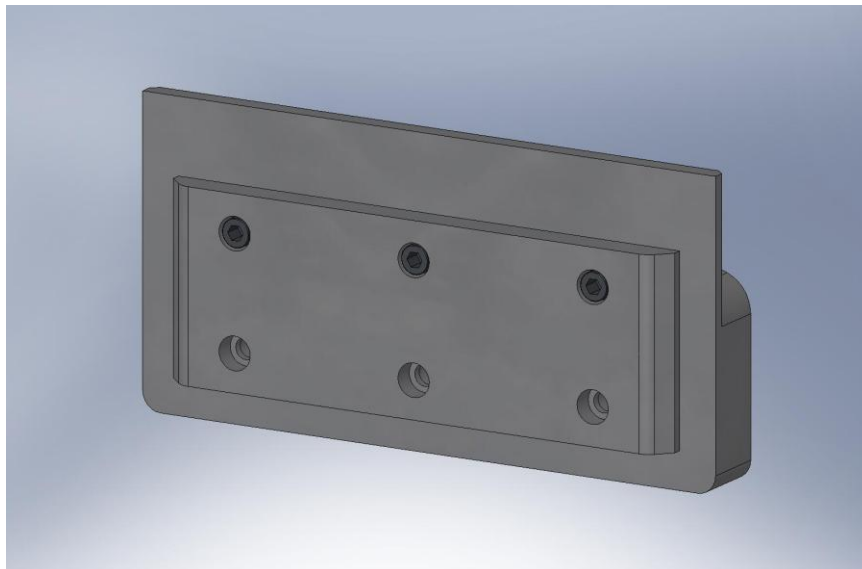

Figure 3.68. Attach Standoff to outside of Left Rail, using top row of screws.
- Screw **GS-13 Install Standoff** (D071312) onto outside of **GS-13 Install Left Rail** (D071311), as shown in Figure 3.68.